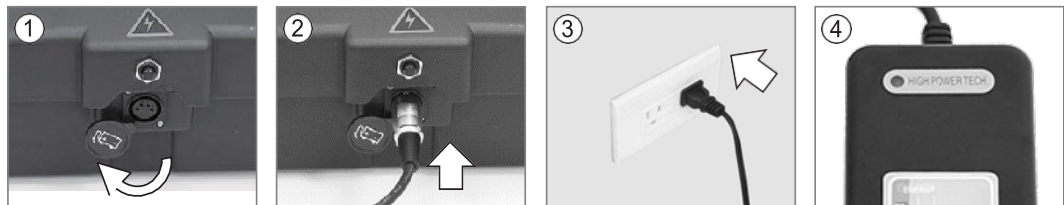

Figure 32
**Battery Box Charge Port (Figure 32)**